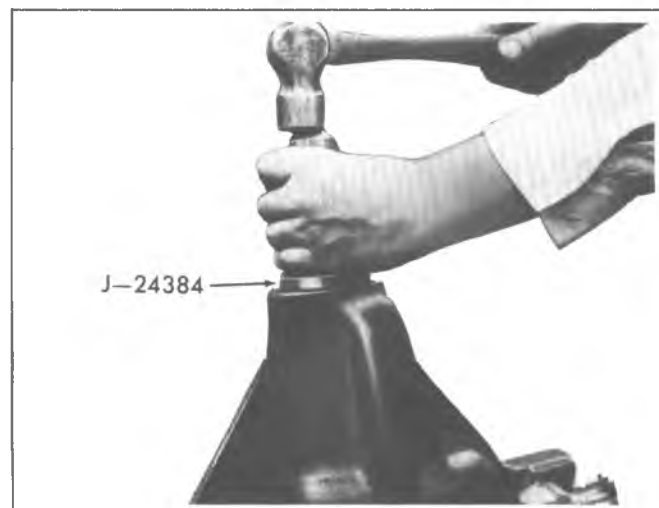

Fig. 11F--Installing Pinion Oil Seal
14. Install new pinion oil seal into housing as shown in figure 11F, using J-24384.